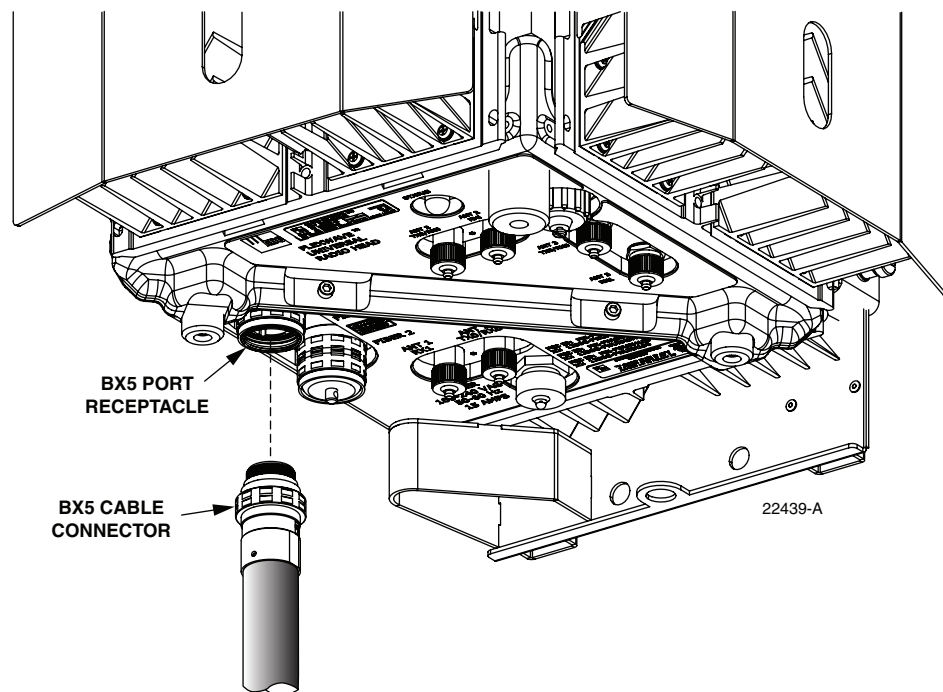

Figure 6. Fiber Cable Installation
1. Remove the dust cap from the BX5 connectors located at the bottom of the RU as shown in Figure 6.